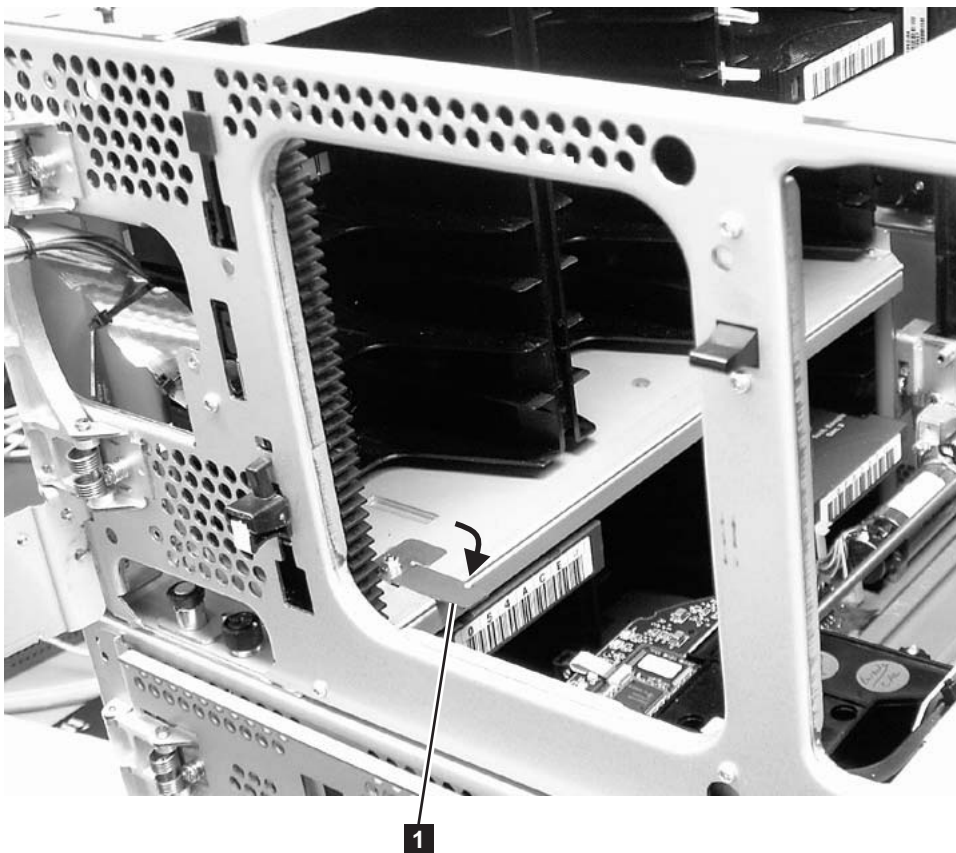

Figure 3-6. Picker locking mechanism
1. Engage the picker assembly lock mechanism ( **1** in Figure 3-6). You may need to lift the picker assembly to fully engage the lock mechanism.